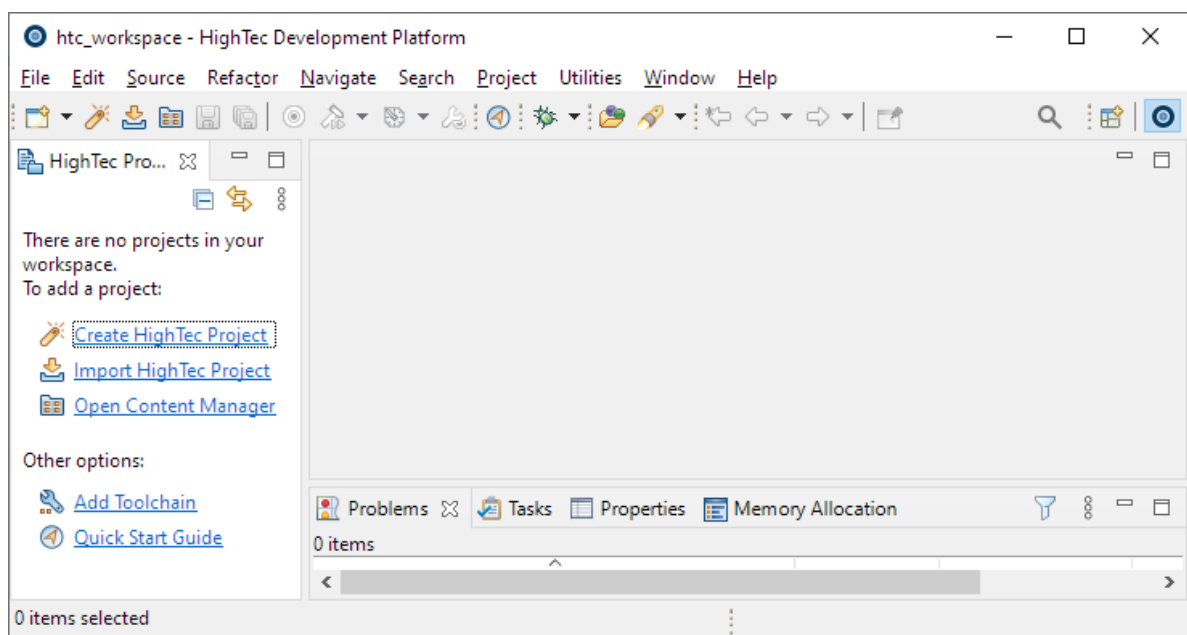
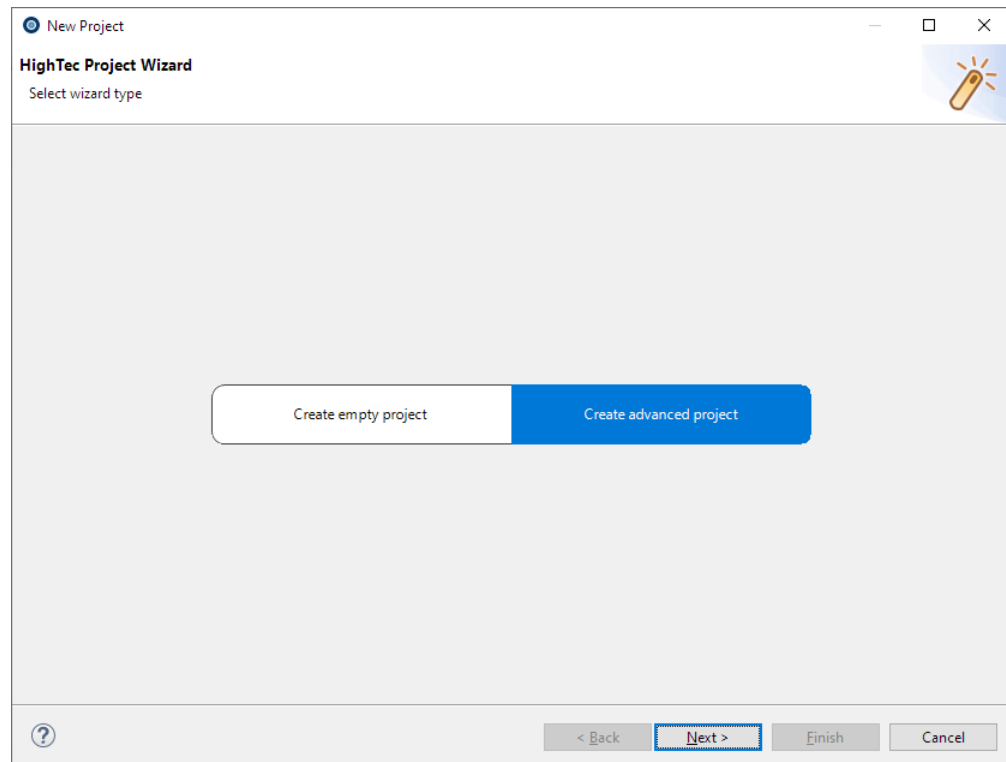

Figure 10 HighTec Project Explorer – Create HighTec Project
Figure 11 New Example Wizard
Before creating an AURIX/TriCore project, it is necessary to have the **HighTec C/C++** perspective on the workbench (Figure 10). By default, this should be the case when you start HighTec Development Platform, but if it is not, do the following.
1. From the **HighTec Project Explorer** menu select **Create HighTec Project** (Figure 10). The **New Project Wizard** appears (Figure 11).
Open the **HighTec Project Wizard** (Figure 11) and select an empty project. Follow the wizard for creating the empty project step by step.